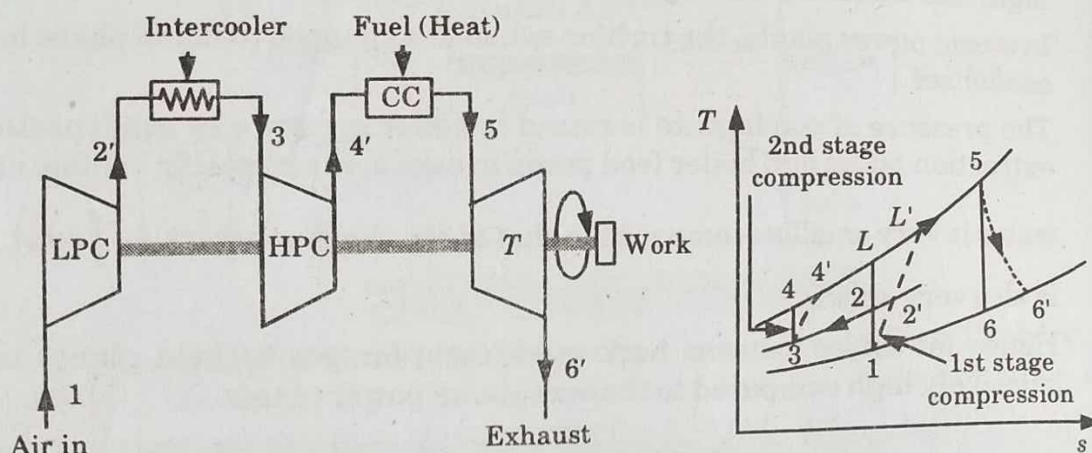

Fig. 5.5.1.
2. The compression of air is to be done in two compressors. Firstly in low pressure compressor then in high pressure compressor, compression process is to be done as shown in Fig. 5.5.1.
3. Fig. 5.5.1 shows ideal and actual processes which occur in an open cycle gas turbine. The dotted lines show the actual curve and thicker one shows the ideal curve.